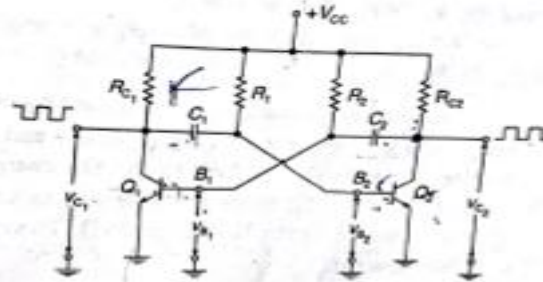

Fig. 32.4. Astable multivibrator.
It is also called a *free-running relaxation oscillator* and is commonly used to generate square waveforms. Figure 32.4 shows the circuit of a collector-coupled astable multivibrator using two identical NPN transistors Q_1 and Q_2 . It is possible to have $R_{C1} = R_{C2} = R_C$, $R_1 = R_2 = R$ and $C_1 = C_2 = C$. In that case, the circuit is known as symmetrical astable multivibrator. The transistor Q_1 is forward biased by the V_{CC} supply through resistor R_1 . Similarly, the transistor Q_2 is forward biased by the V_{CC} supply through resistor R_2 . The output of transistor Q_1 is coupled to the input of transistor Q_2 through the capacitor C_1 . Similarly, the output of transistor Q_2 is coupled to the input of transistor Q_1 through the capacitor C_2 .
2. During the time $t > 0$ (i.e., when Q_1 is ON and Q_2 is OFF), the capacitor C_1 is charged towards the voltage V_{CC} through R_1 . The charging takes place exponentially with time constant $\tau_1 = R_1 \cdot C_1$. Since the base of transistor Q_2 is directly connected to capacitor C_1 , as shown in Figure 32.4 (page 597). Therefore the voltage v_{B2} , also increases exponentially towards V_{CC} .